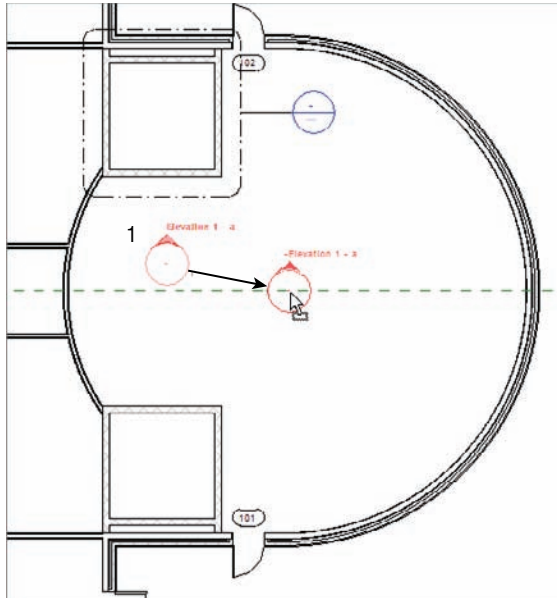

FIGURE 3.81 Add the elevation marker as shown here, and then move it to a new location.
1. Go to Floor Plan Level 1. Zoom into the east wing entry area, as shown in Figure 3.81.
3. Place an elevation marker in an area similar to the one shown in Figure 3.81, and then move it to the center of the lobby.